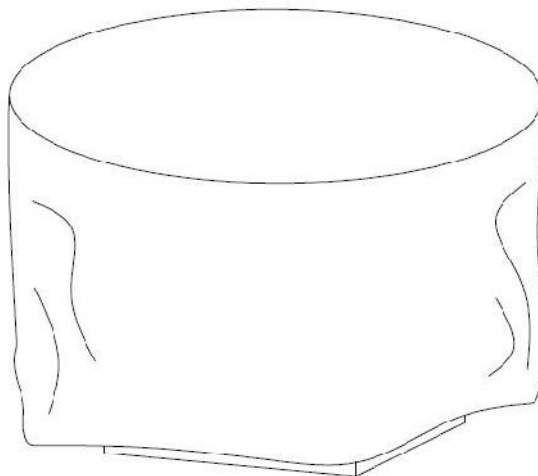

Figure 5
7. Cover the fire pit with the outdoor Weather cover (E) when not in use to protect it from the elements or when fire pit is cool COMPLETELY after the use, see Figure 5.